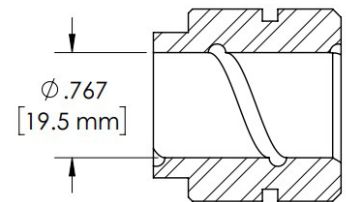

figure 17
- Inspect the bushings (items 5A) - The silicon carbide parts will not wear under normal operation. Polishing on a silicon carbide surface is a normal occurrence and usually does not require replacement. Check for signs of melting around the perimeter of the bushings. Make sure that the spiral groove on the bushing ID is not plugged. Check for chips or cracks on the rear face. Check bushings for wear (see figure 17). If the bushings appear worn, follow the steps listed in the section “Replacing Wear Components, Impeller Bushings.”